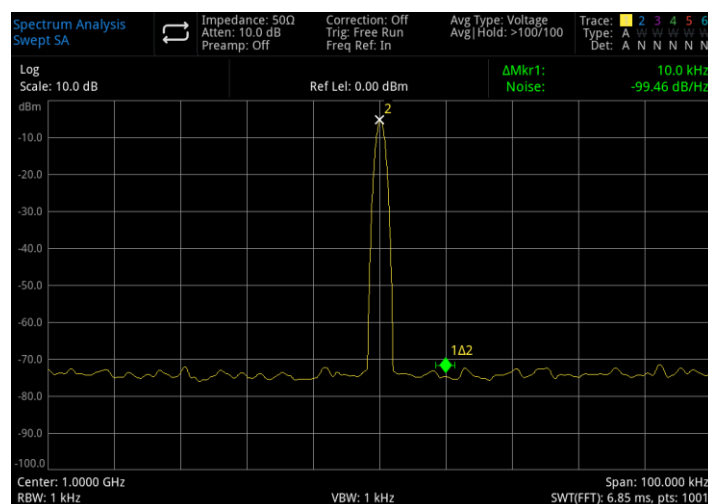

Figure 3-20 Phase Noise
- 7 Open marker function **>mark noise**, as shown in Figure 3-20: